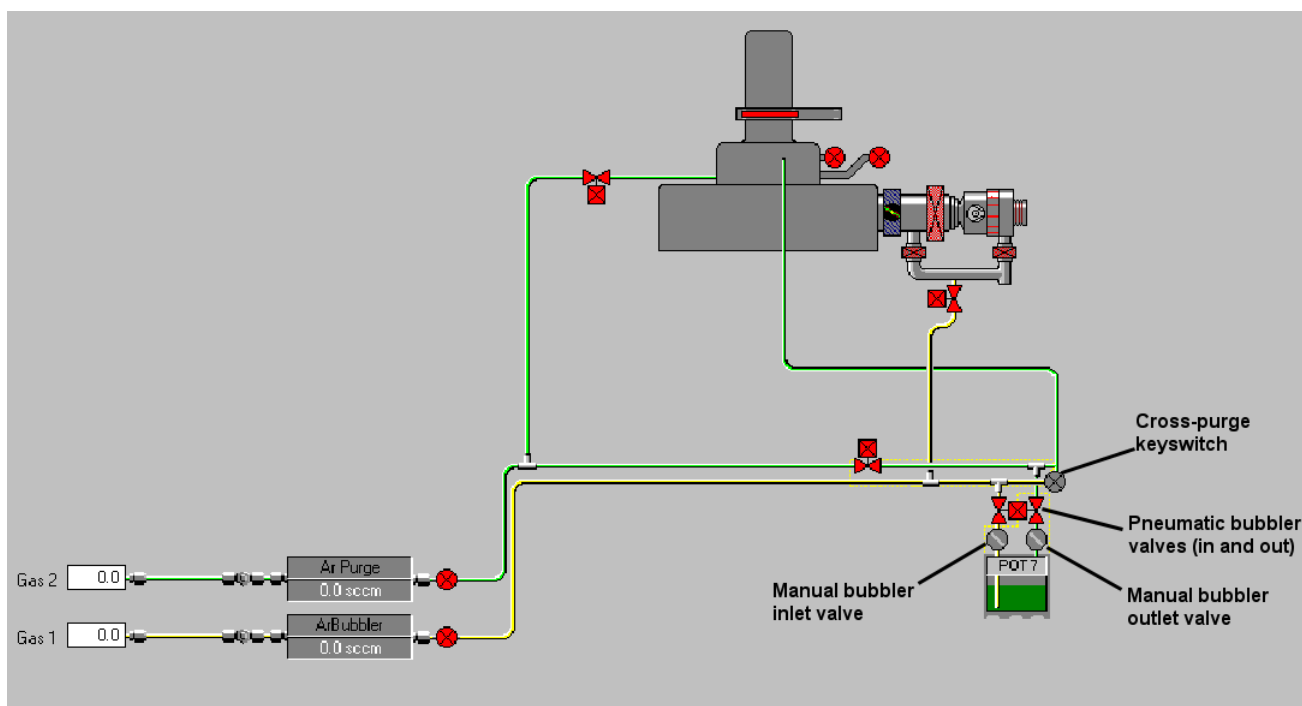

Figure 7-6 Simplified Process Control page showing the precursor valves
- 1 Open the Process Control page and open the pair of ALD precursor valves on the precursor that has just been fitted (see Figure 7-6). This evacuates the air that has been introduced between the precursor outlet pneumatic ALD valve and the ampoule outlet manual valve. **DO NOT OPEN THE MANUAL AMPOULE VALVES YET.** Refer to Figure 7-6 for an explanation of the pumpdown sequence.